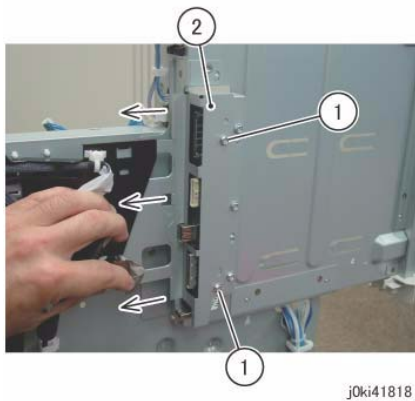

Figure 3 Remove the Shield
10. Remove the Shield. (Figure 3)